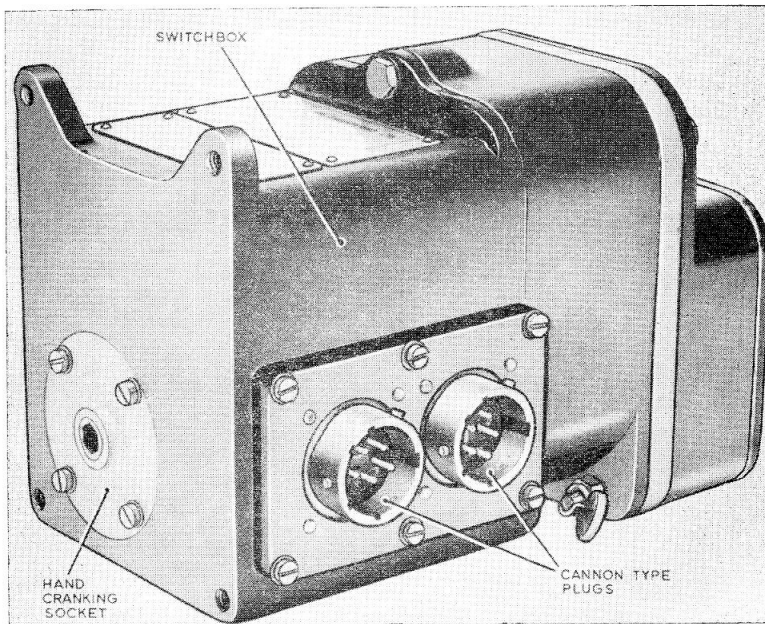

Fig. 1. General view of unit
1. The actuator Type MAL 12 (fig. 1) is designed to provide a duplicated electro-mechanical remote controlled system of operation of the "in flight" safety lock on bomb release units. It is intended that a single motor failure will not cause complete failure of the actuator.
12. A hand cranking socket is provided, for positioning the ram, when no electrical supply is available. The hand cranking socket can be found on the end of the crank shaft (fig. 1).